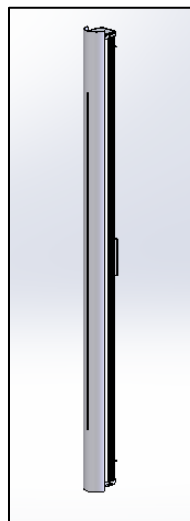

FIG.2 – ARMET LUMINAIRE (AS SHOWN)
1. ARMET INDOOR SCONCE LUMINAIRE. (as shown in FIG. 2)